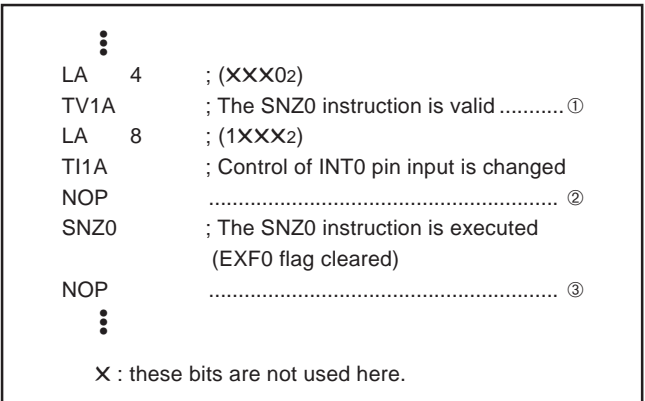

Fig. 18 External 0 interrupt program example-1
- Depending on the input state of the P30/INT0 pin, the external 0 interrupt request flag (EXF0) may be set when the bit 3 of register I1 is changed. In order to avoid the occurrence of an unexpected interrupt, clear the bit 0 of register V1 to "0" (refer to Figure 18 ①) and then, change the bit 3 of register I1. In addition, execute the SNZ0 instruction to clear the EXF0 flag after executing at least one instruction (refer to Figure 18 ②). Also, set the NOP instruction for the case when a skip is performed with the SNZ0 instruction (refer to Figure 18 ③).